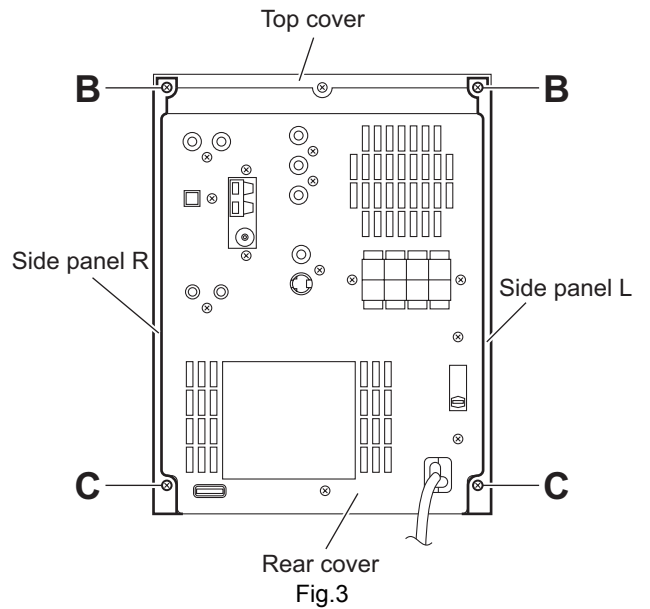

Fig.3
- (2) From the back side of the main body, remove the two screws **B** and two screws **C** attaching the side panels L/R to the rear cover and top cover. (See Fig.3)